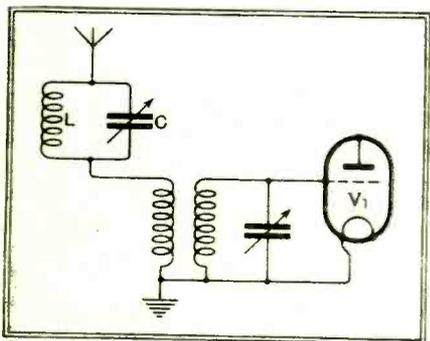

Fig. 1.—A simple wave trap of this type, in addition to eliminating the local station, generally reduces the strength of adjacent transmissions.
**T**HE use of a rejector circuit in the aerial lead of a receiver as shown in Fig. 1 is well known as a means of eliminating an undesired signal of the frequency to which the rejector circuit is tuned. The effectiveness of such a wave trap depends on both the inductance and magnification of the coil. The larger the inductance and the higher the magnification of the coil the greater is the reduction in the amplitude of the undesired signal.